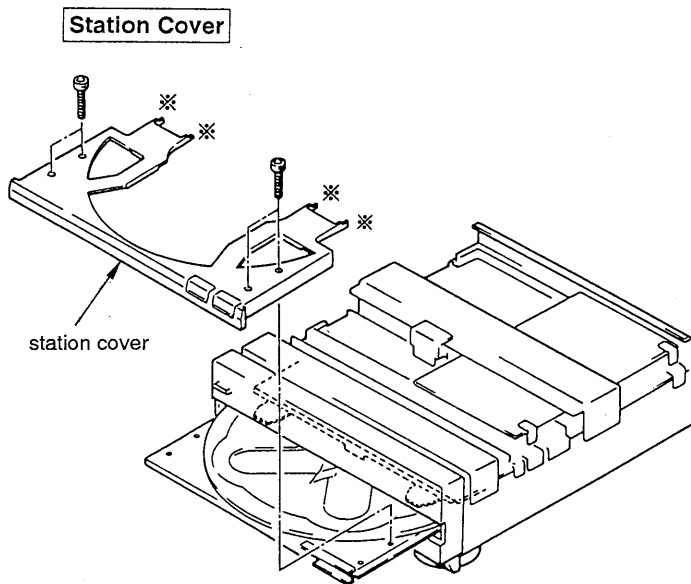

Fig. 6
3. Slide the station cover further to the end inserting the four * marks on figure 6 under the chucking bracket.